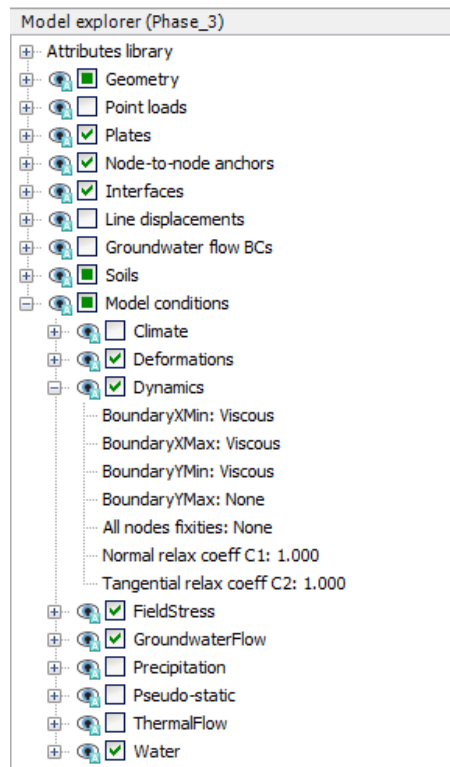

Figure 17–11: Boundary conditions for dynamics calculations
- 6 Expand the **Dynamics** subtree. Check the boundary conditions **BoundaryXMin**, **BoundaryXMax** and **BoundaryYMin** are viscous which is shown in Figure 17–11 \(p. 266\).